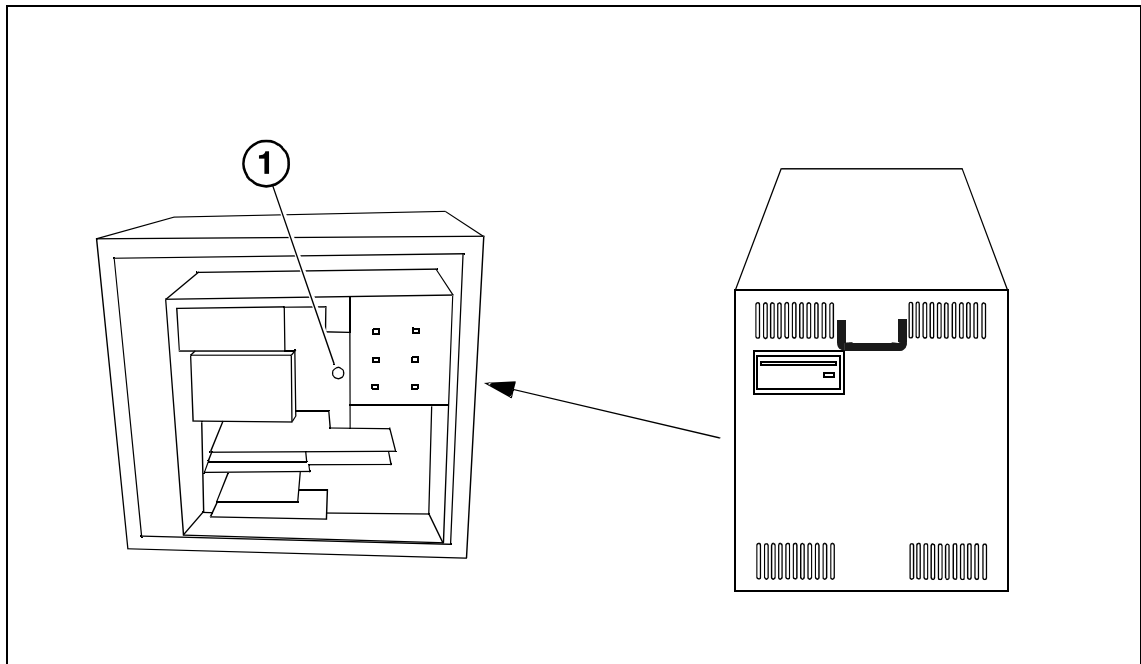

Fig. 2
- Remove the cover of the PCs on the left side of the ASPIA container (Fig. 2).
- Dispose of the coin cell on the motherboard (1/Fig. 2); **lithium battery**.